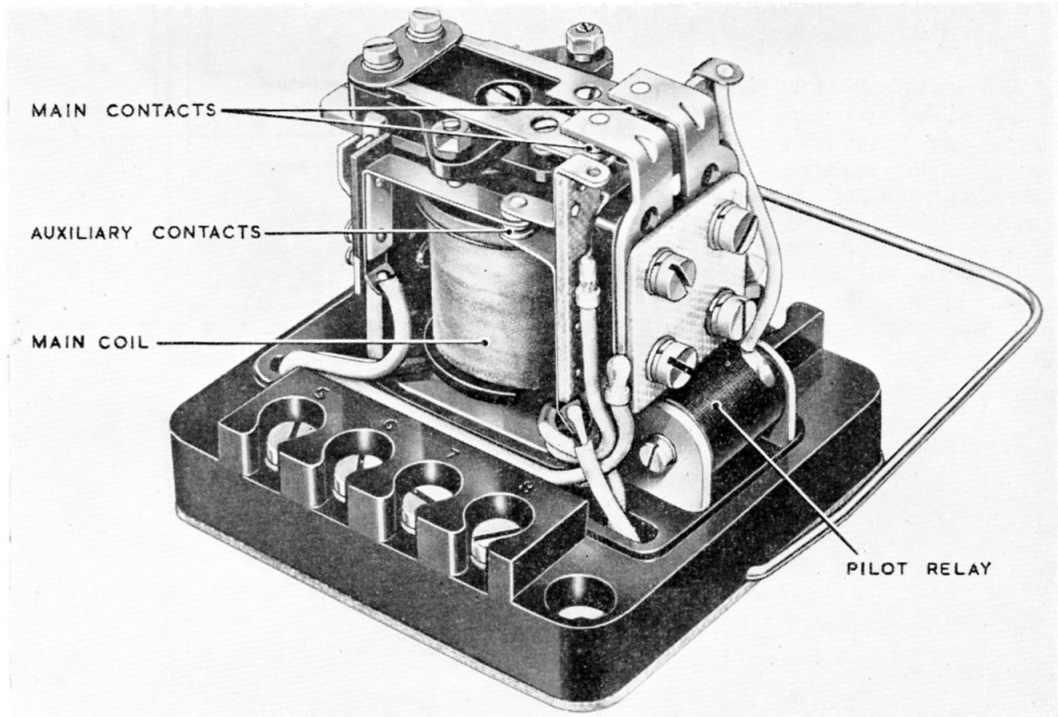

Fig. 1. Type 3B, No. 2 magnetic switch
1. The Type 3B, No. 2 magnetic switch (*fig. 1*) is designed for use in aircraft electrical systems as a time delay relay. The relay operates one set of main change-over contacts and one pair of auxiliary (normally open) contacts. Provision is made to use the latter as changeover contacts if required. Time delay is achieved by a slugged coil in the main relay, and by a pilot relay which operates to bring in the main relay coil, the pilot relay being taken out of circuit by the operation of cut-out contacts.